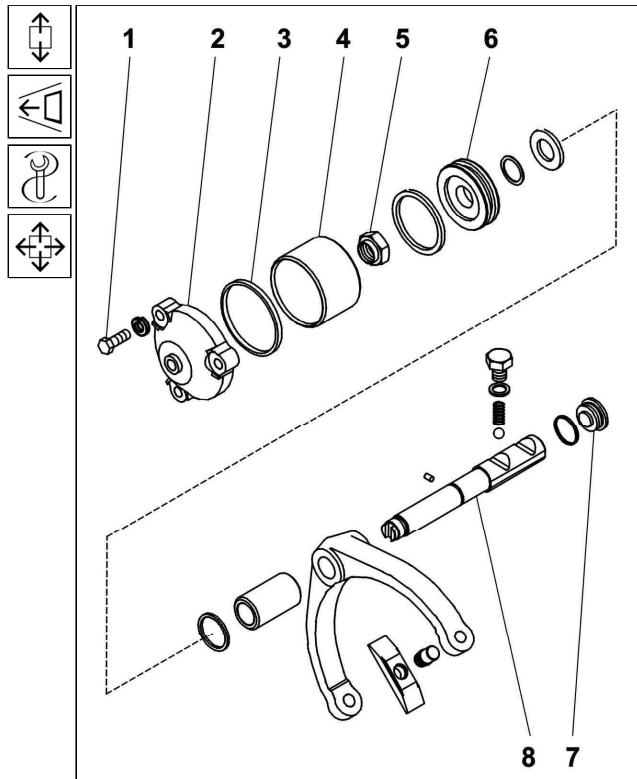

Fig. 3.9 H/L gearshift cylinder
16. Fit the shaped "O" ring 3 on the gearshift cylinder liner 4 (See Fig. 3.9), install the gearshift cylinder cover 2 and tighten to the torque of **$32 - 46 \text{ Nm}$** .